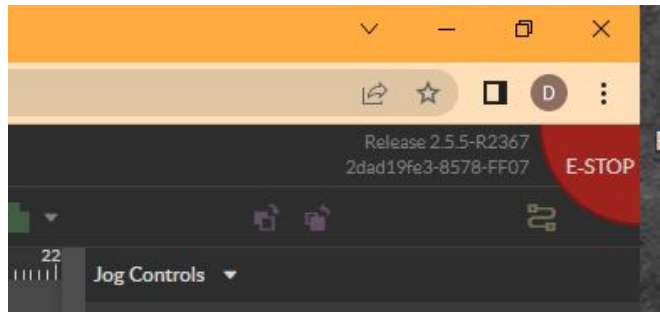

Fig. 21
2. On Retina go to the top right section of your browser and locate the jog Controls.(See Fig. 21)